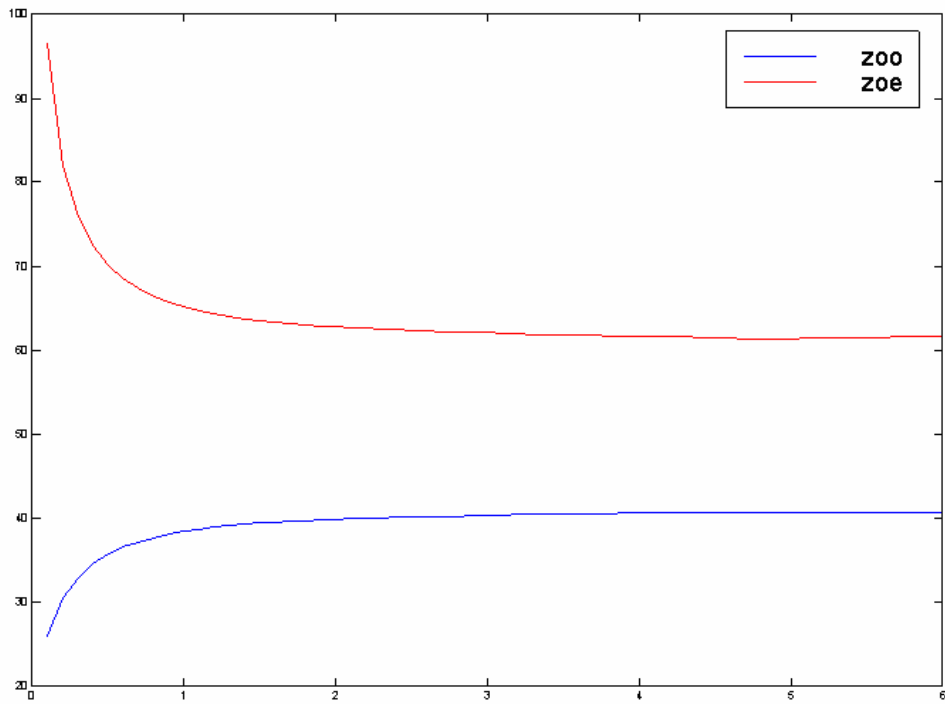
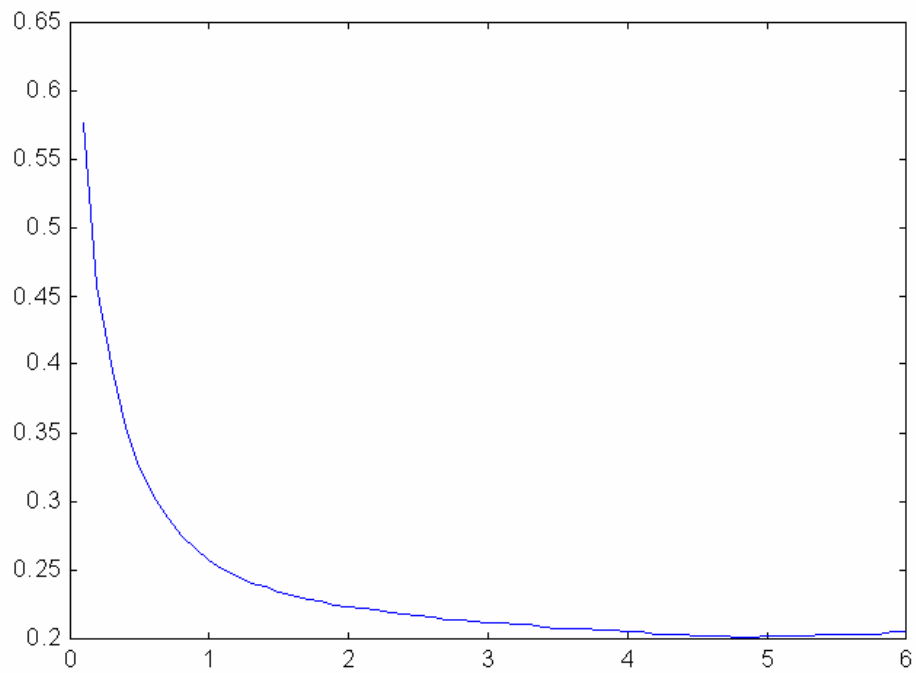

Fig2. Zodd and Zeven VS. S/W
Fig.3 Kc and Km VS. S/W
2. Mutual capacitance and mutual inductance of the coupled differential TL is derived from the actual geometrical, see detail derivation in the matlab file. The result is shown in Fig2 and Fig3. Fig2 shows Odd mode impedance and Even mode impedance Vs.  $S/W$ . We don't need to consider Even mode impedance too much since the common mode voltage on TL is zero for ACCI. Fig.3 shows the coupling coefficient: for lines in homogeneous medium,  $K_m=K_c$ . For case of  $S=5*W$ ,  $K_m=K_c=0.2$ ,  $Z_{odd}=41\text{ohm}$ (that is Differential impedance is  $80\text{ohm}$ ).